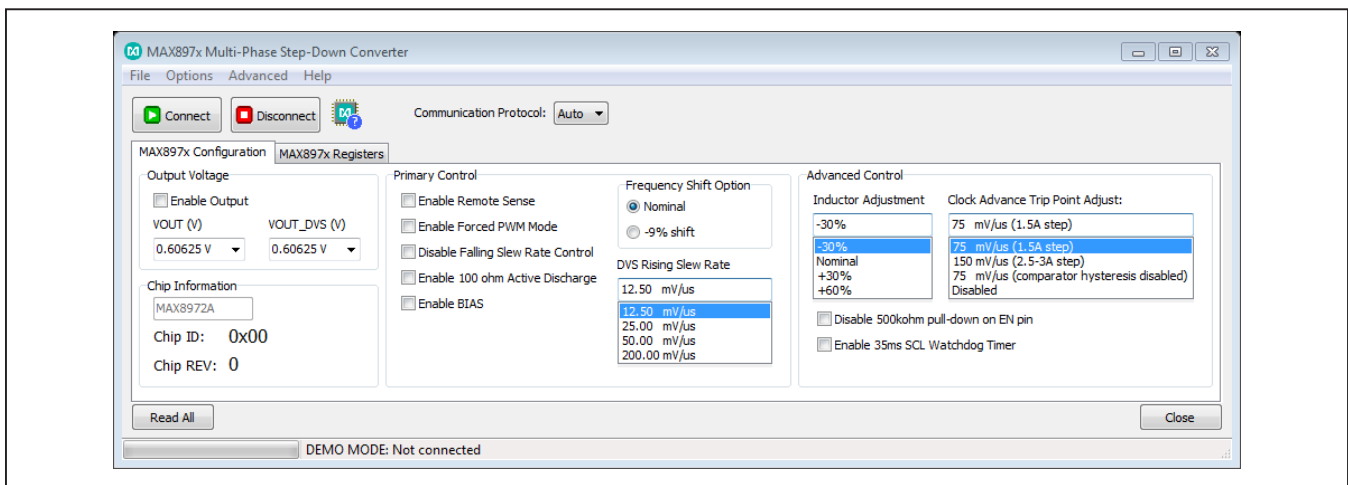
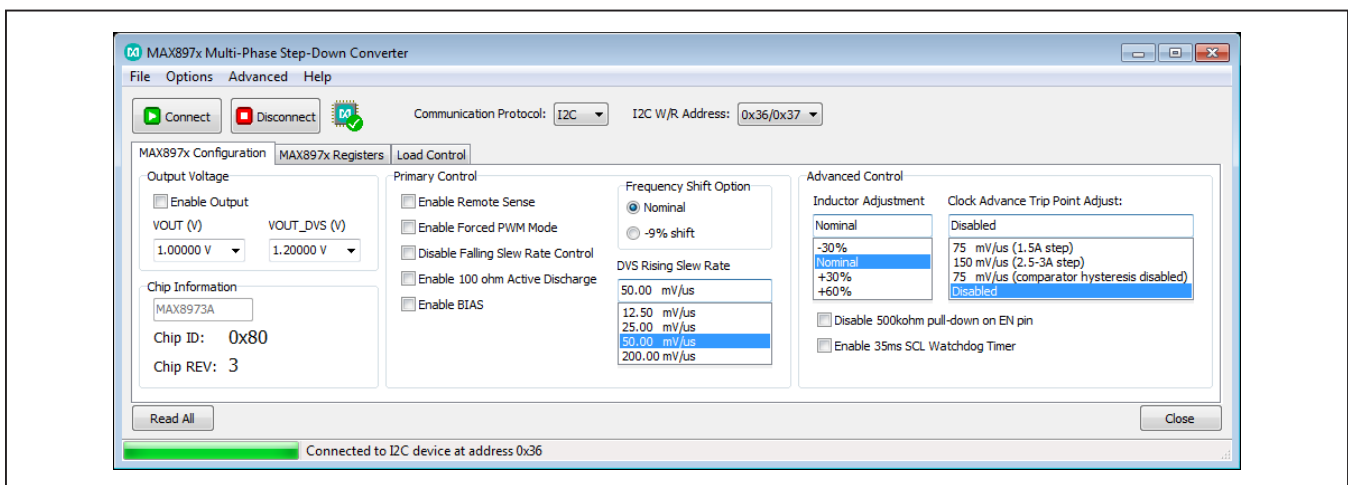

Figure 3. GUI Window—Not Connected
Figure 4. GUI Window—Connected
- 7) Open the MAX897x GUI window (Figure 3).
- 8) In the **Communication Protocol:** drop-down menu, select **Auto**. Then click **Connect**. If the connection is successful, the blue question mark over the Maxim logo transitions to a green check mark, and the text box at the bottom of the window reads **Connected to I2C device at address 0x36** (Figure 4).
The MAX8973A requires the use of a GUI in order to fully exercise the capabilities of the device. Figure 3 shows the main GUI window, prior to connecting to the device. See the Quick Start Procedure section for instructions on how to connect the device before using the GUI.
Select **Auto** next to **Communication Protocol**. Click on **Connect** in the upper left corner of the GUI window. If a device is detected and connection is successful, the blue question mark over the Maxim logo transitions to a green check mark and **Connected to I2C device at address 0x36** replaces **DEMO MODE: Not connected** at the bottom of the window (Figure 3 and Figure 4). Another tab **Load Control** appears to the right of **MAX897x Registers**. See the On-Board Electronic Load section for a detailed description of the programmable on-board load.